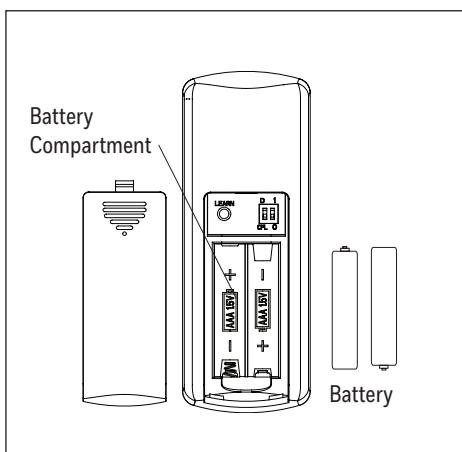

Figure 5.1
1. Use a flat-head screwdriver, if necessary, to remove the battery cover from the back of the remote found in remote pack. Insert the battery into the remote; ensure polarity of battery matches the polarity indicated in the battery compartment -- positive (+) to positive (+) and negative (-) to negative (-). Replace the back cover and press the fan on/off button on the remote to ensure the LED indicator illuminates and the remote turns on the fan (Figure 5.1).
Remote does not work.	<ol style="list-style-type: none"> <li>1. Power surge may have cleared the memory and remote needs to be resynced to the receiver. Syncing instructions: Turn off the power at the breaker box for at least 10 seconds and then turn the power back on. Within 30 seconds, press and hold the "LEARN" button (Figure 5.1) on the back of the remote for 3 seconds. The fan will turn on at high speed and light will blink twice and stay on, signaling a successful synchronization.</li> <li>2. Insert new AAA batteries in battery compartment of the wall control.</li> <li>3. If there are several remote fans in proximity, turn the power off to those fans and re-sync the fan.</li> </ol>